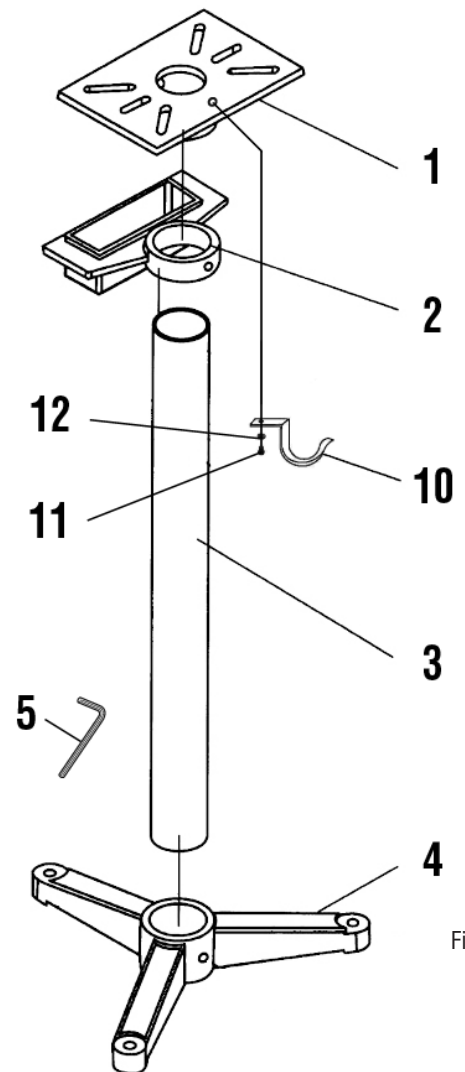

Fig. 1
2. Place the support pole (#3) into the centre of the base. (Fig. 1)